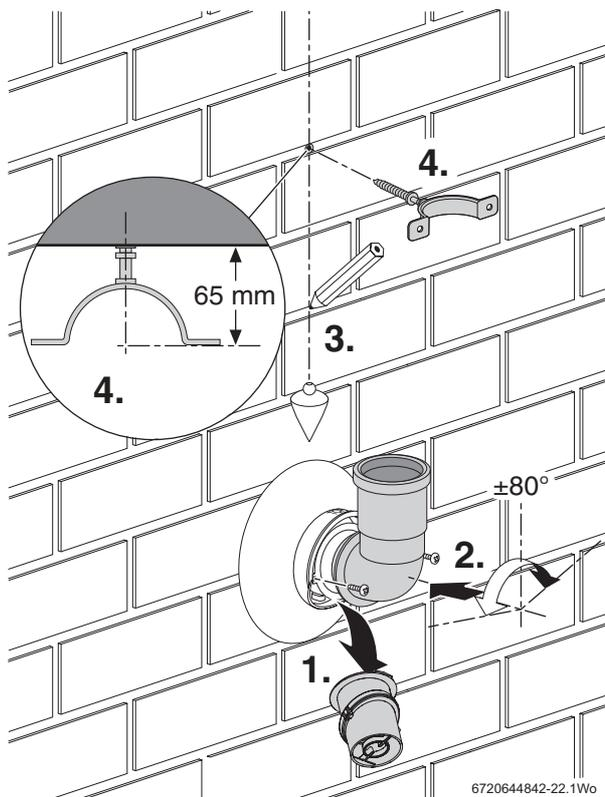

Fig. 39 Terminal bend installation
Refer to figure 39 for terminal bend installation.
4. Screw the clamp into the wall plug to the distance shown in figure 39.
1. Refer to figure 39 and remove and retain the screws securing the terminal end and discard the terminal end.
1. Refer to figure 39 and remove and retain the screws and terminal end.